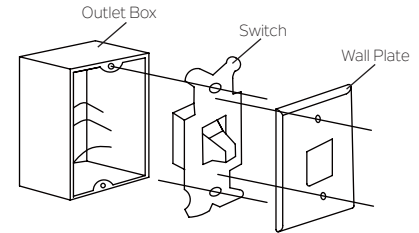

Fig. 15
**Step 1.** Remove the existing wall plate and the old switch from the wall outlet box. Disconnect wires. (Fig. 15)